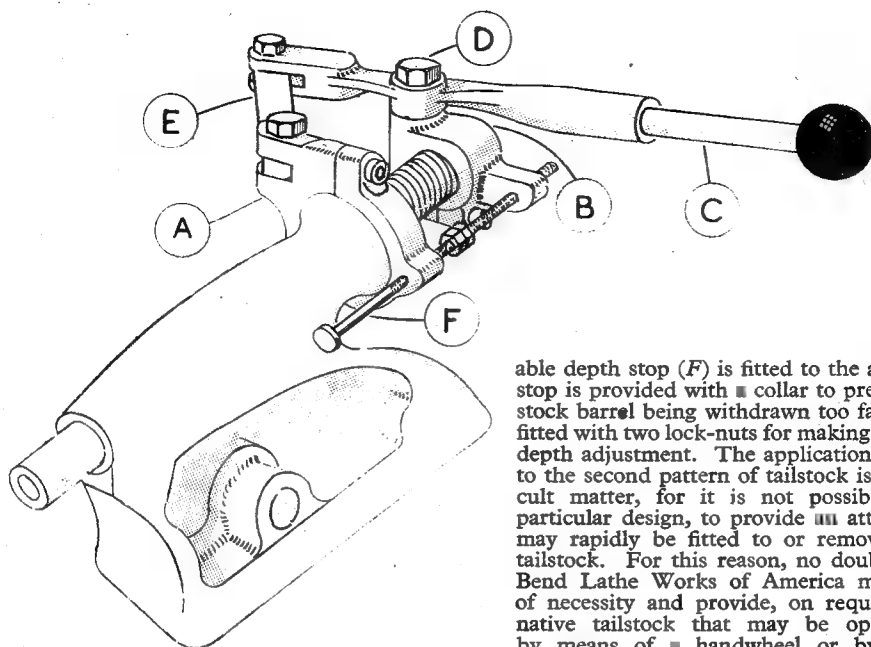

Fig. 2. Myford lever-operated tailstock for M.L.7 lathe
employed by the Myford Engineering Co. on their M.L.7 lathe is illustrated in Fig. 2. This device consists of a bracket (A) to clamp on the machined end of the tailstock casting, a threaded adapter (B) to engage the tailstock barrel, and an operating lever (C). The threaded adapter is provided with a shouldered hexagon screw (D) and the operating lever swings upon it. A swinging link (E) engages both the end of this lever and the bracket (A). In addition, an adjust-